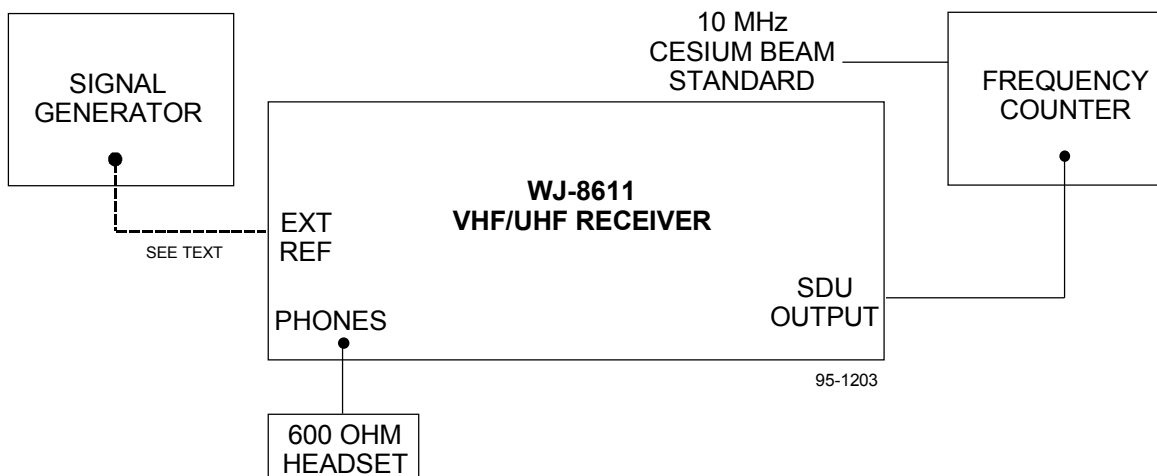

Figure 6-1. Reference Frequency Performance Test, Equipment Connection
1. Connect the 10 MHz cesium beam standard to the external reference input on the frequency counter. Connect the 50-ohm input on the frequency counter to the receiver's SDU output, as illustrated in **Figure 6-1**.